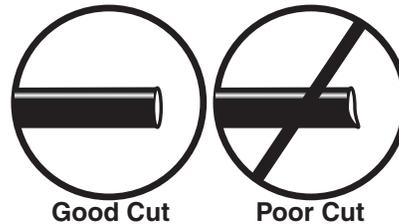

fig. 17
WHEN CUTTING OR TRIMMING THE AIR LINE, USE A HOSE CUTTER, A RAZOR BLADE, OR A SHARP KNIFE. A CLEAN, SQUARE CUT WILL ENSURE AGAINST LEAKS. DO NOT USE WIRE CUTTERS OR SCISSORS TO CUT THE AIR LINE. THESE TOOLS MAY FLATTEN OR CRIMP THE AIR LINE CAUSING IT TO LEAK AROUND THE O-RING SEAL INSIDE THE ELBOW FITTING (FIG. 17).
7. Cut off the air line, leaving approximately 12" of extra air line. A clean square cut will ensure against leaks (see fig. 17). Insert the air line into the air fitting. This is a push-to-connect fitting. Simply push the air line into the 90 degree swivel fitting until it bottoms out (9/16" of air line should be in the fitting).